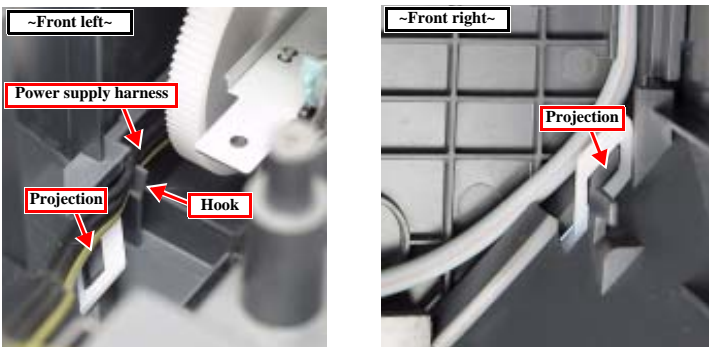

Figure 4-25. Checking the installation of the Middle Housing
- The right and left openings at the front bottom of the Middle Housing are properly engaged with the projections of the Bottom Housing. (Fig. 4-25)
- The power supply harnesses (black and yellow) are fastened properly. (Fig. 4-25) (Held down with the Middle Housing and free from floating or dislocation)